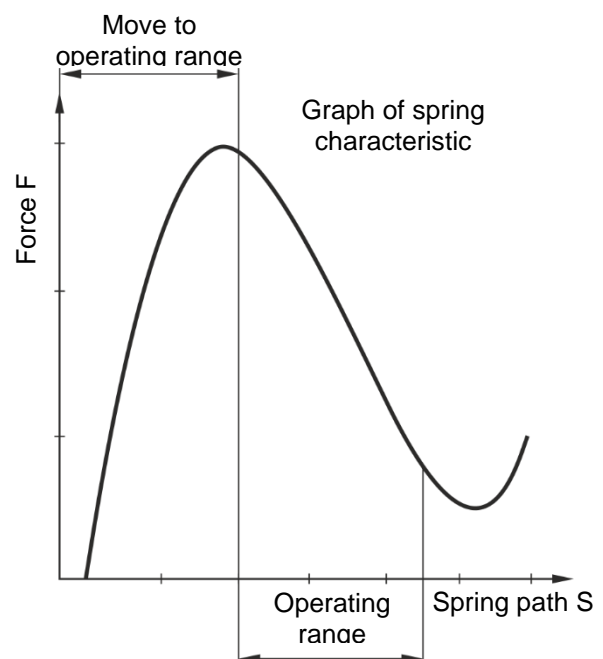

Fig. 11
Torque adjustment is carried out by turning the adjusting nut (7). The installed cup springs (11) are operated in the negative range of the characteristic curve (see Fig. 11); this means that a stronger pre-tensioning of the cup spring results in a decrease of the spring force.
Adjusting the adjusting nut (7) or distorting the cup springs (11) outside of the cup spring characteristic curve (see Fig. 11) stops the clutch functioning.